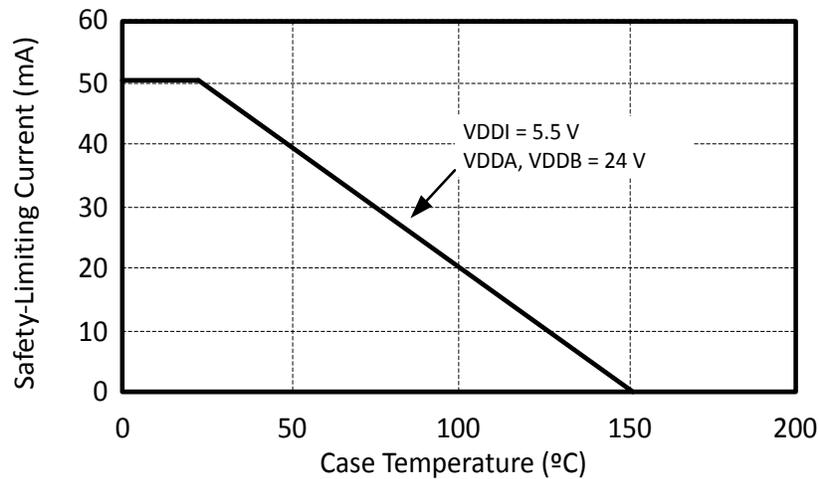

Figure 3.4. WB SOIC, NB SOIC, 14 LD LGA/QFN Thermal Derating Curve, Dependence of Safety Limiting Values with Case Temperature per VDE 0884-10
1. Maximum value allowed in the event of a failure. Refer to the thermal derating curve in Figures [Figure 3.4 WB SOIC, NB SOIC, 14 LD LGA/QFN Thermal Derating Curve, Dependence of Safety Limiting Values with Case Temperature per VDE 0884-10 on page 31](#).